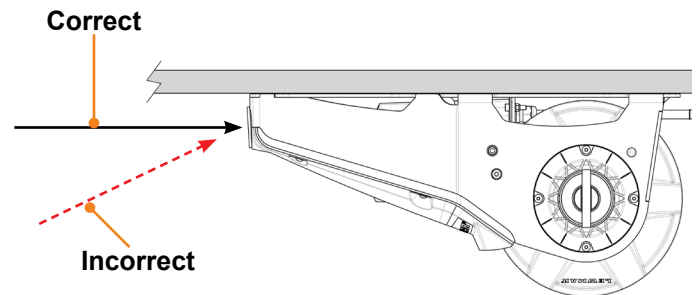

Fig.2
4. The lead from the bow roller should be fed horizontally back to the winch rope feeder, and not at an angle (Fig. 2).